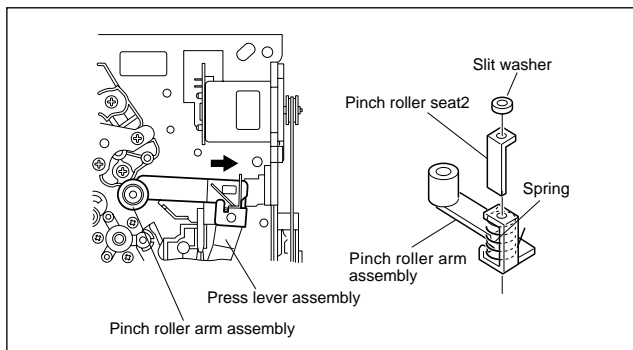

Fig. 2-2-4a
- (1) Remove the spring from the hook of the press lever assembly.
- (2) Remove the slit washer and remove the pinch roller seat 2. (See Fig.2-2-4a.)
- (3) Remove the pinch roller arm assembly by pulling it up.